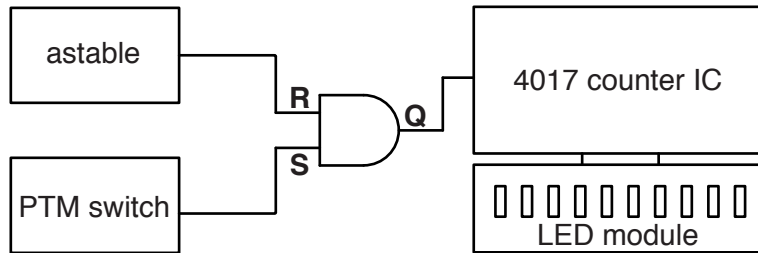

Fig. 13
- 10 (a) A student wishes to make an electronic counter that will generate numbers from 0 to 9. Fig. 13 shows a block diagram of the system that will be used to control the length of time that the counter will ‘roll’ for before settling on one number. The 4017 counter IC counts from 0 to 9 repeatedly; each output will control one LED. The two inputs are an astable signal and a push to make (PTM) switch.
(v) Name the logic gate used in Fig. 13 and complete the truth table below for the gate.